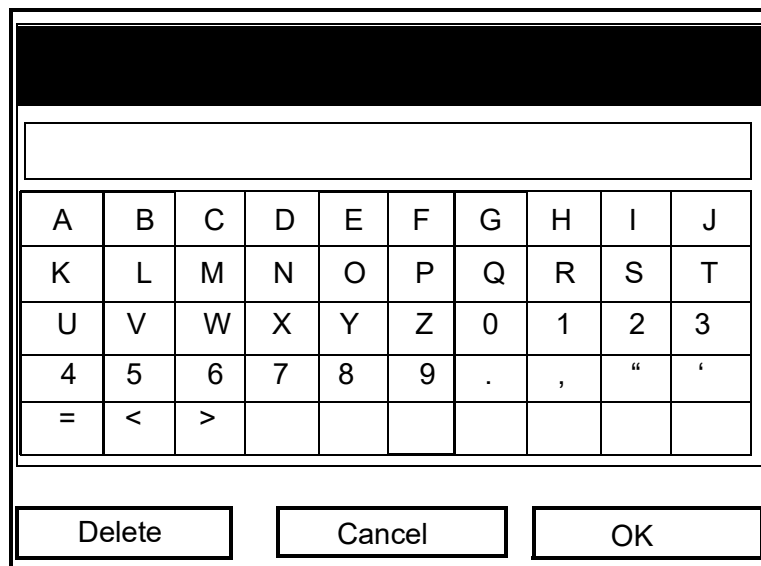

Figure 82: The Text Creation Window
2. Press **[ENTER]** to select "Message," which opens the text creation window, shown in Figure 82 on the next page.